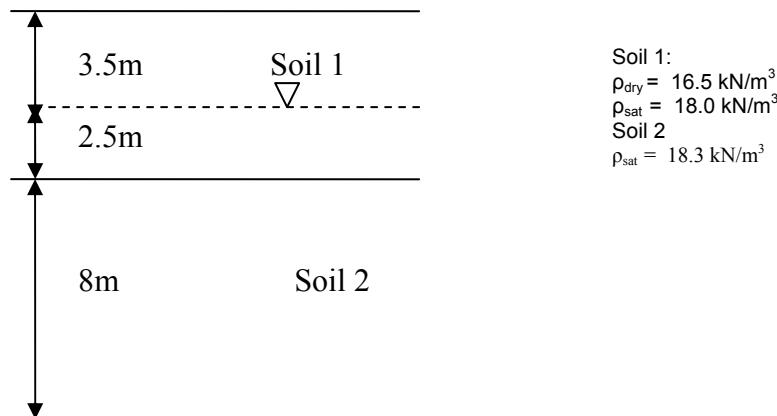

Figure 1
- (b) Based on the soil investigation, the profile as shown in Figure 1 is obtained.